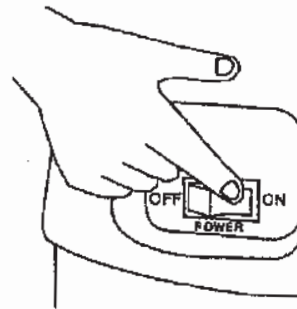

Fig.4-1 Main Switch
#### (1) MAIN SWITCH (Fig.4-1)